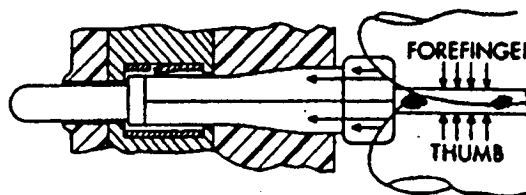

Figure 2
G. Grip tool and wire as shown in Figure 2, exerting pressure as indicated by pressure arrows. This holds tip firmly against contact shoulder and produces a unit of tool, contact and wire.